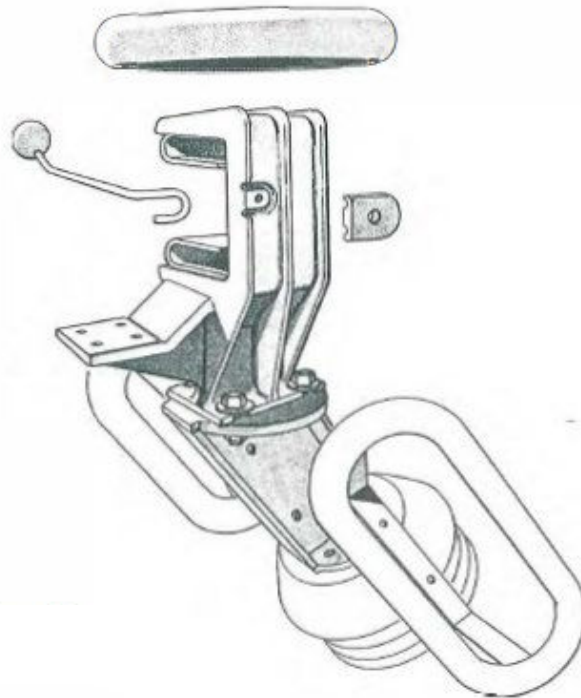

Figure 8: Jaw Installation
- 1.9. Mount the jaws as indicated in **Figure 8**. This would also be a convenient time to mount the arcing horns, jaw corona shield, and corona rings.